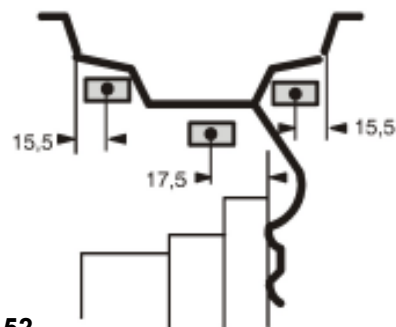

Fig. 52
- Fit the adhesive weights to the rim as shown in **Fig. 52**.